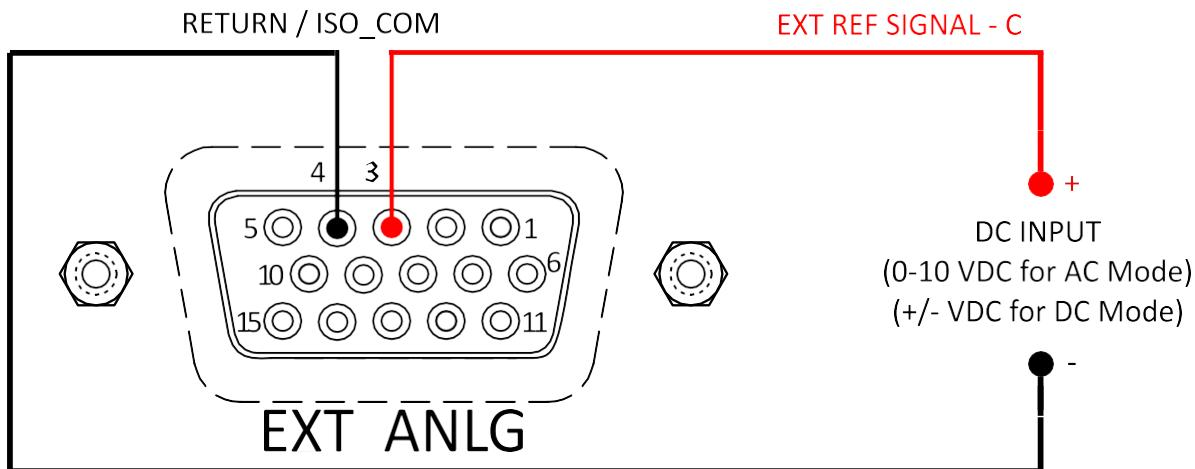

Figure 4-19: External Analog Programming – Reference DC Source for Phase C
- Pin 3 (External Reference Signal – Phase C) and Pin 4 (Return / ISO_COM) are to be connected to the DC source to vary the output voltage for Phase C, refer to Figure 4-19.